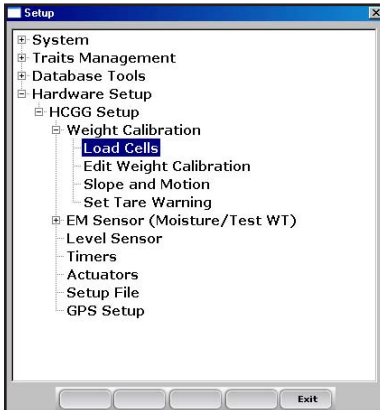

Figure 3-2: Setup menu with Load Cells selected
5. Select ***Load Cells*** as shown in Figure 3-2. Follow the instructions on the screen.